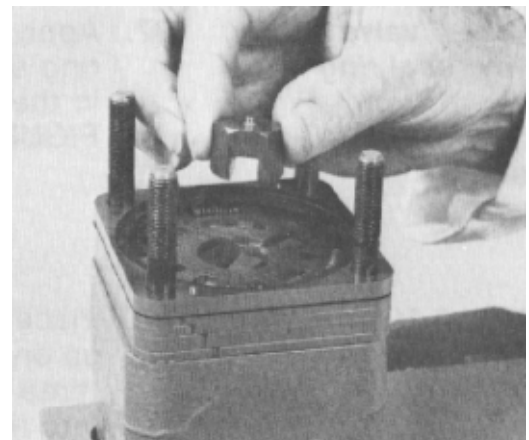

Figure 117
36. Put the hex drive assembly, pin side up, through the hole in the isolation manifold (Fig. 117). the slot in the hex drive must be engaged with the SMALL tang of the drive link. Turn the input shaft to assist the engagement.